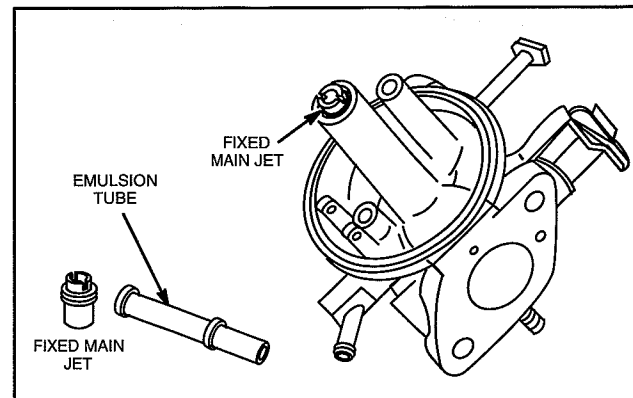

Fig. 7 – Remove Emulsion Tube
4. Remove fixed main jet using screwdriver, Tool # 19062, Fig. 7.